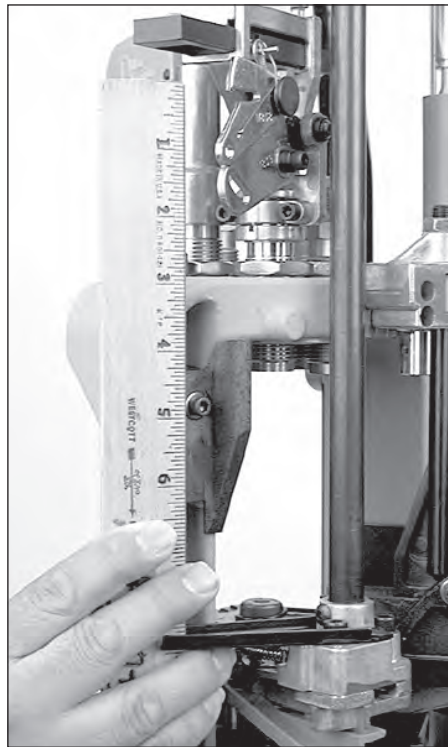
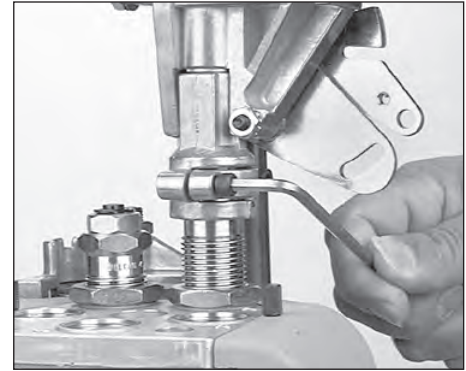

FIG 97
FIG 98
7. Insure the bellcrank and the failsafe bracket are aligned **FIG 97**. Using a 5/32" Allen wrench snug the collar clamp screws **FIG 98**.